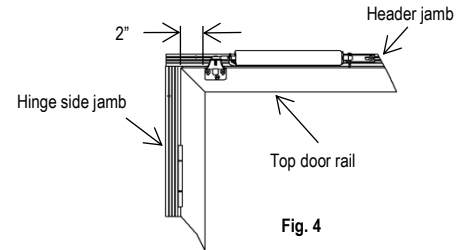

Fig. 4
- Closer tube will be installed on top door rail (Fig. 4).